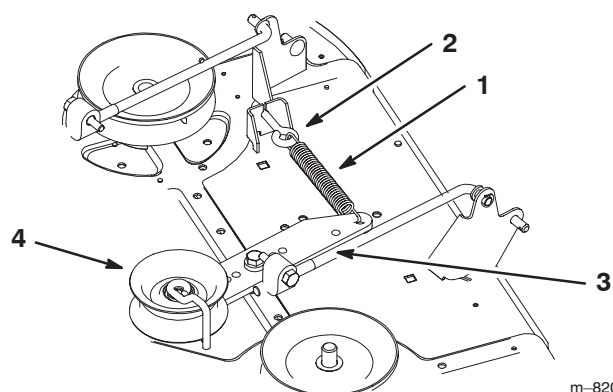

Figure 43
13. Hook the idler spring from the idler pulley arm to the eye-bolt on the mower (Fig. 43).